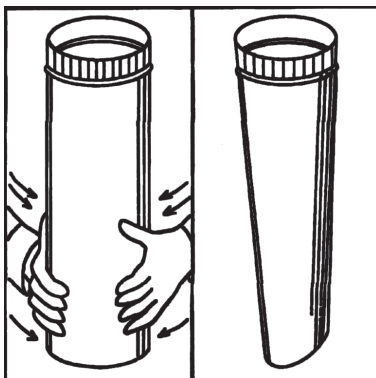

Fig. 4 – Hand-form pipe to fit stove collar
1. The smooth end of the stovepipe fits over the cast iron collar. To attach, simply hand form the smooth end of the round stove pipe into an oval shape (fig. 4). Drill & secure with a minimum of three (3) sheet metal screws.